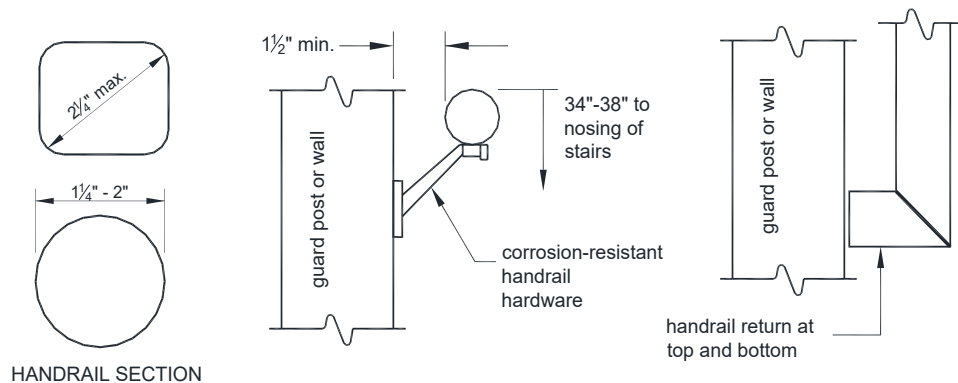

FIGURE 41: HANDRAILS
- Handrails shall be attached to a stair guard or exterior wall acting as a barrier as shown in see FIGURE 41.